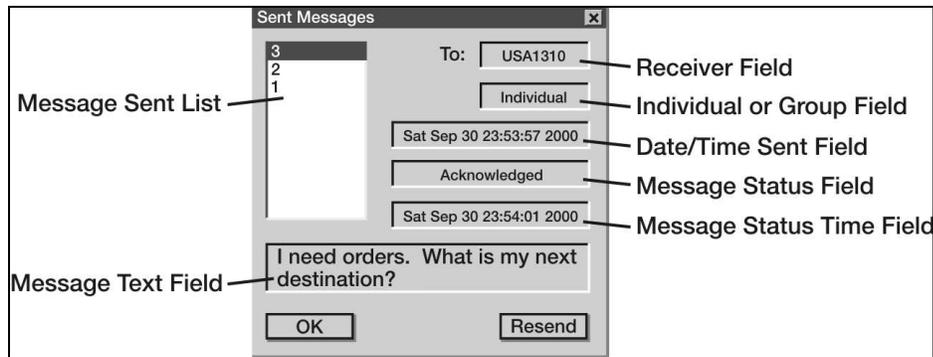

Figure 3-97. Review Sent Messages
- d. Review a sent message. Select read messages - review sent messages or press F6. The message window should show all message sent (see Figure 3-97).